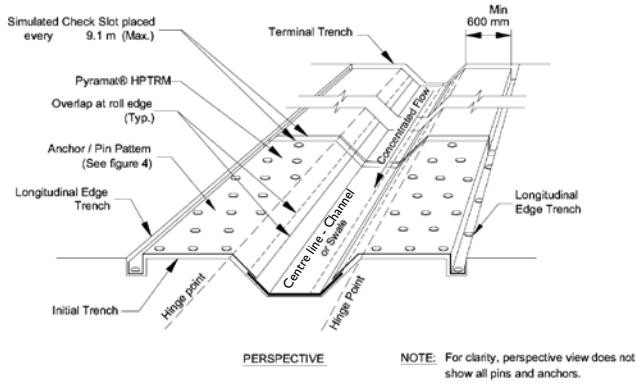

FIGURE 1: OVERVIEW OF ARMORMAX® SYSTEM IN CHANNEL
- Figure 1 shows general installation layout and details for Armormax™ System in storm water channels.